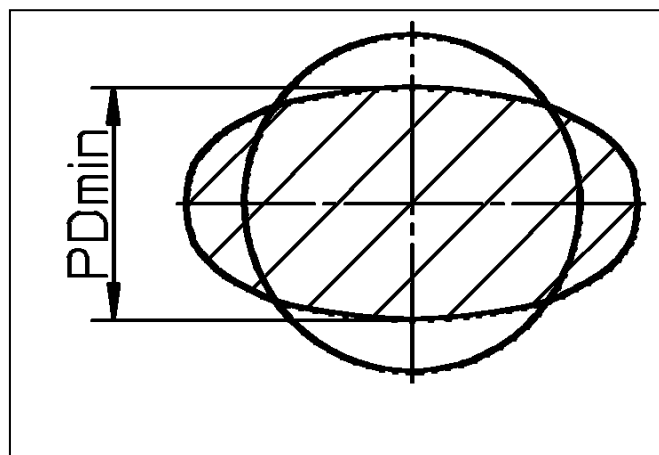

Fig. 9
- If the coupling has a distinct torsional backlash, or if the minimum buffer thickness ( $PD_{min}$ , Fig. 9) according to table 8 is reached, we recommend to replace the elastic buffers.